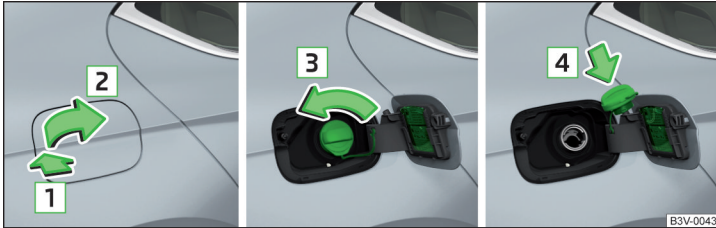

Fig. 213 Open fuel filler flap / unscrew tank cap / place the tank cap on the fuel filler flap
- Press the fuel filler flap in direction of arrow **1** and fold in the direction of arrow **2** » Fig. 213.